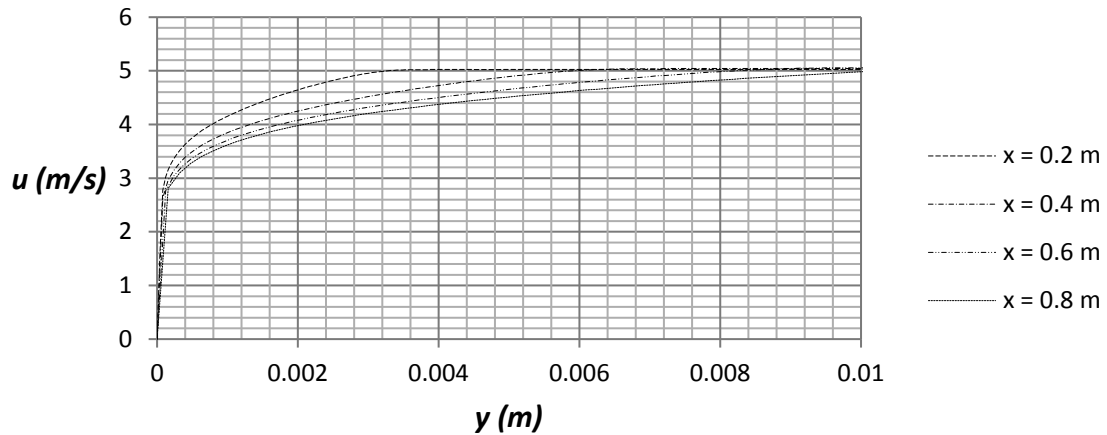

Figure 2.30a) Flow Simulation comparison between turbulent boundary layers at $Re_x = 10^6 - 4.04 \cdot 10^6$
32. Place the file “**graph 2.30a)**” on the desktop. Repeat step 24 and choose the sketch $x = 0.2, 0.4, 0.6, 0.8$ m and check the box for **Velocity (X)**. Rename the xy-plot to **Turbulent Velocity Boundary Layer**. An Excel file will open with a graph of the streamwise velocity component versus the wall normal coordinate; see figure 2.30a). We see that the boundary layer thickness is much higher than the corresponding laminar flow case. This is related to higher Reynolds number at the same streamwise positions as in the laminar case. The higher Reynolds numbers are due to the selection of water as the fluid instead of air that has a much higher value of kinematic viscosity than water.
As an example, the turbulent boundary layer thickness from figure 2.30a) is 3.55 mm at $x = 0.2$ m which can be compared with a value of 4.44 mm from equation (2.4), see table 2.2.
- 2.6 Determine the displacement thickness, momentum thickness and shape factor for the turbulent boundary layers in figure 2.30a) and determine the percent differences as compared with empirical data.